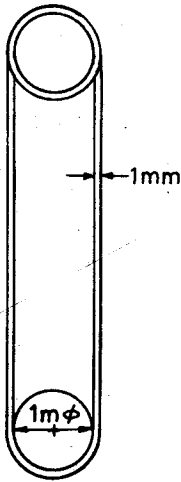

Fig. 25
65. A steel band-saw blade 20 mm wide and 1 mm thick is driven by two, 1 m diameter pulleys as shown in Fig. 25. The maximum stress developed in the blade is equal to